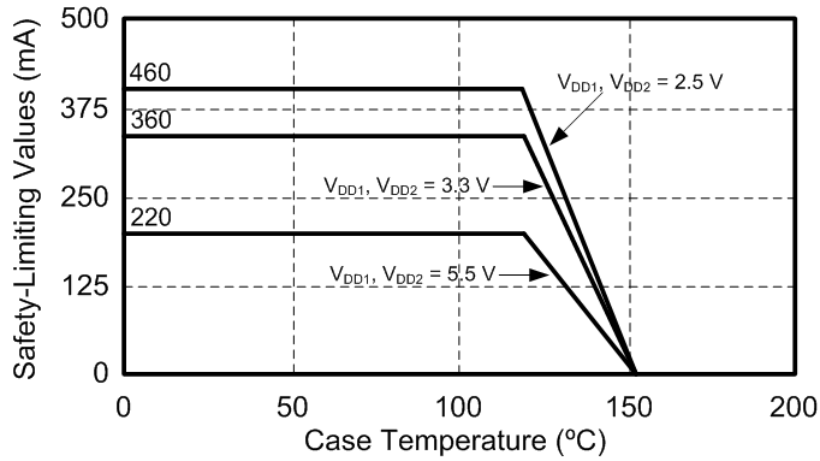
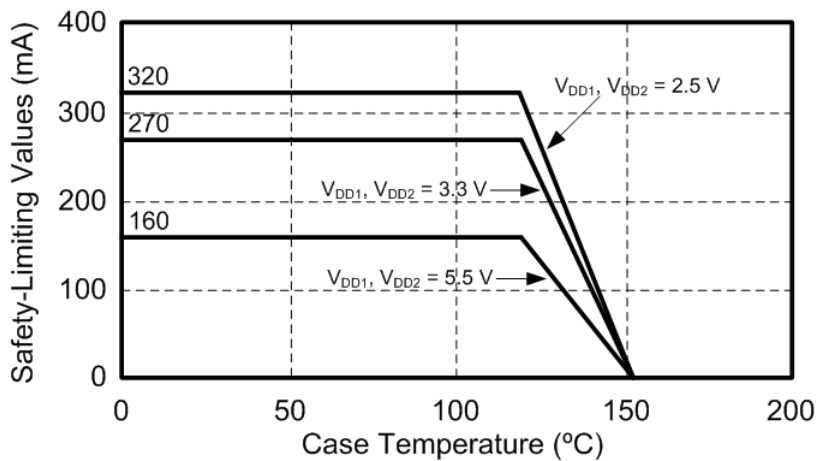

Figure 4.3. (WB SOIC-16) Thermal Derating Curve, Dependence of Safety Limiting Values with Case Temperature per DIN EN 60747-5-5/VDE 0884-10, as Applies
Figure 4.4. (NB SOIC-8) Thermal Derating Curve, Dependence of Safety Limiting Values with Case Temperature per DIN EN 60747-5-5/VDE 0884-10, as Applies
1. Maximum value allowed in the event of a failure; also see the thermal derating curve in [Figure 4.3 \(WB SOIC-16\) Thermal Derating Curve, Dependence of Safety Limiting Values with Case Temperature per DIN EN 60747-5-5/VDE 0884-10, as Applies on page 26](#) and [Figure 4.4 \(NB SOIC-8\) Thermal Derating Curve, Dependence of Safety Limiting Values with Case Temperature per DIN EN 60747-5-5/VDE 0884-10, as Applies on page 26](#).